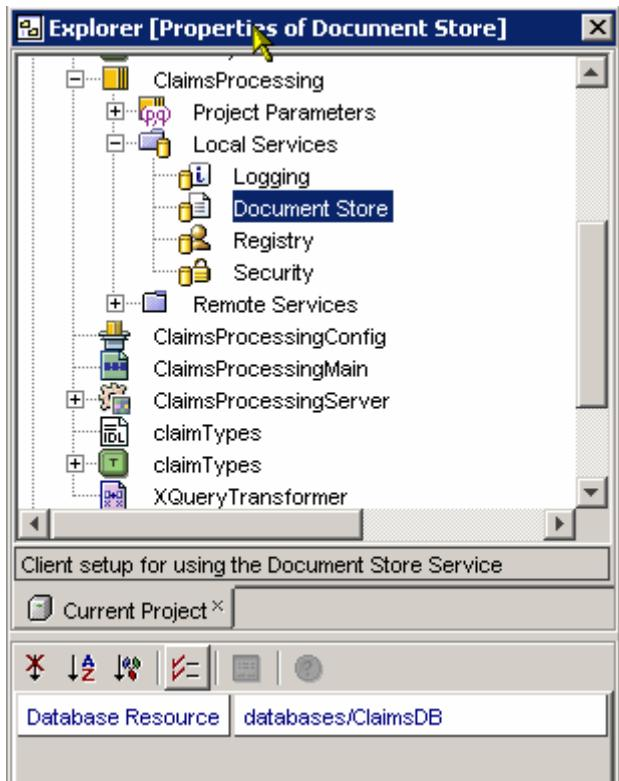

Figure 28-4 Setting the Database Resource
2. In the Properties Window, set the **Database Resource** property to the database resource that provides persistence support for document store as shown in Figure 28-4.